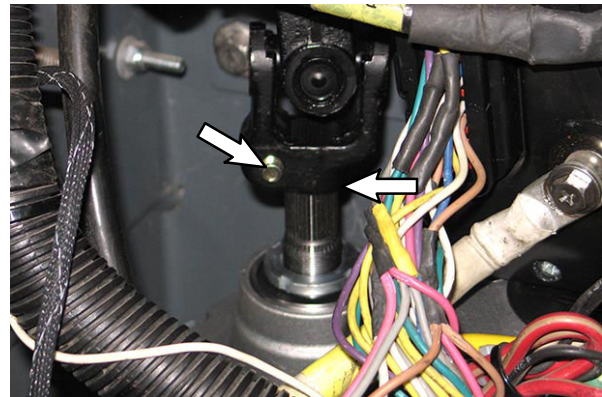

FIG. 36
37. Install bottom of the power steering top shaft (6) onto the power steering motor (10). (Fig. 36)